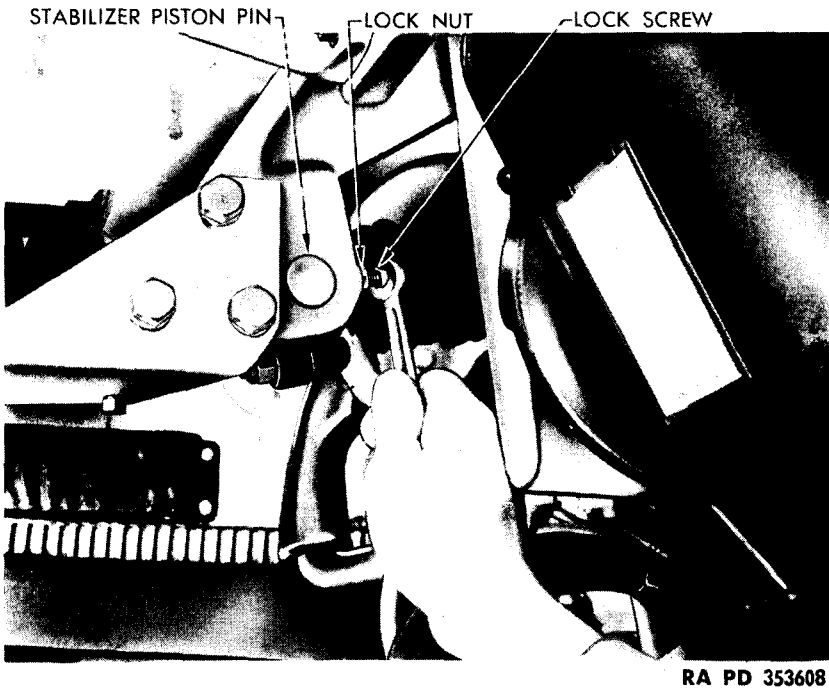

Figure 53. Loosening lock nuts on stabilizer cylinder and piston pin (M24).
a. DISCONNECT STABILIZER CYLINDER AND PISTON FROM GUN CRADLE. Loosen the two lock nuts (fig. 53) and lock screws and slide pin out of rear end of stabilizer cylinder and piston. Do not disconnect cylinder and piston from bracket on front of turret.